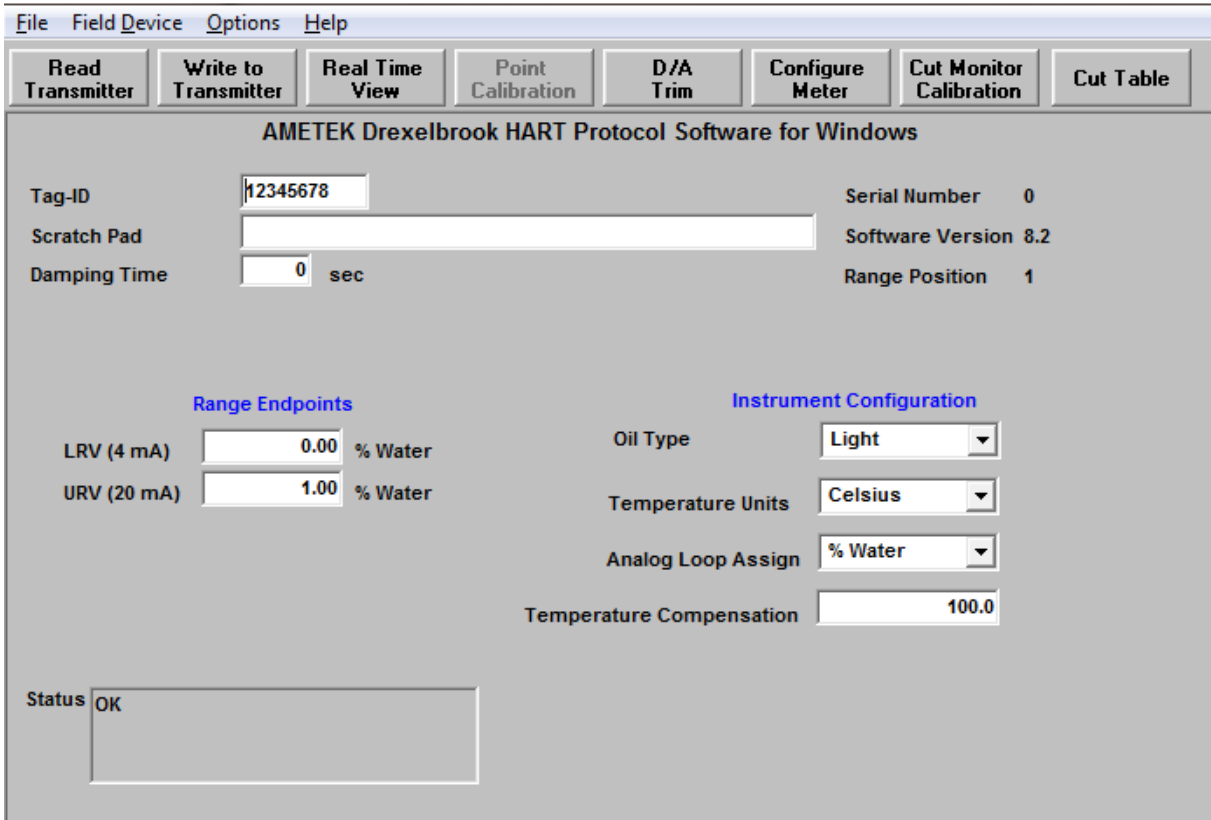

Figure 3-3
- D. The next view, shown in **"Figure 3-3"**, appears automatically, displaying current transmitter database for calibration set-up for your selected Tag ID. The Scratch Pad will automatically show the last message (last user, last calibration, etc.) up to 32 characters. If this is a new transmitter, the Tag ID is user-defined. Serial number, transmitter software version, range, etc. is automatically entered from the "name plate data" embedded in the transmitter: